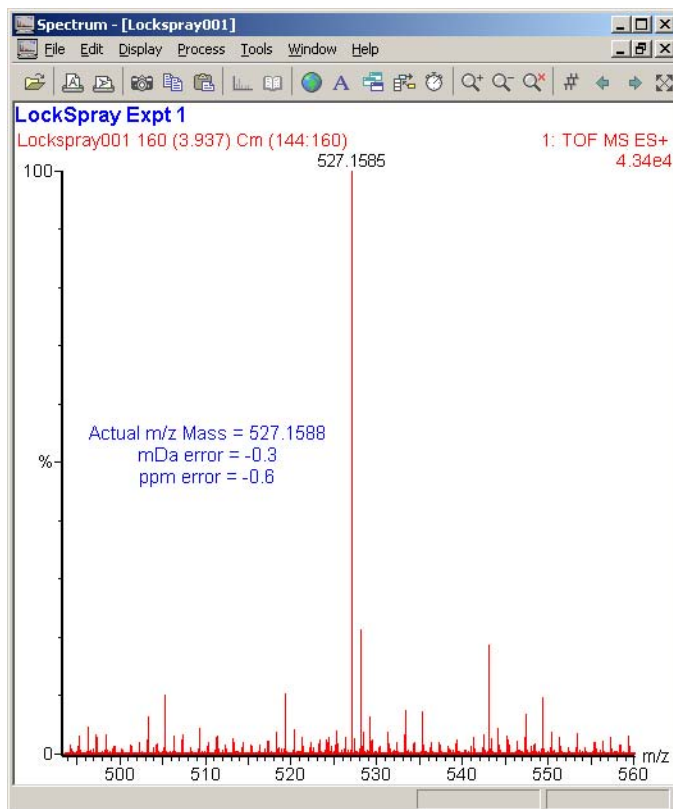

Figure 4-8 Combined Spectrum in Spectrum Window
3. Click OK to open the combined spectra in the Spectrum window (Figure 4-8).
The ppm error is indicated in Figure 4-8.